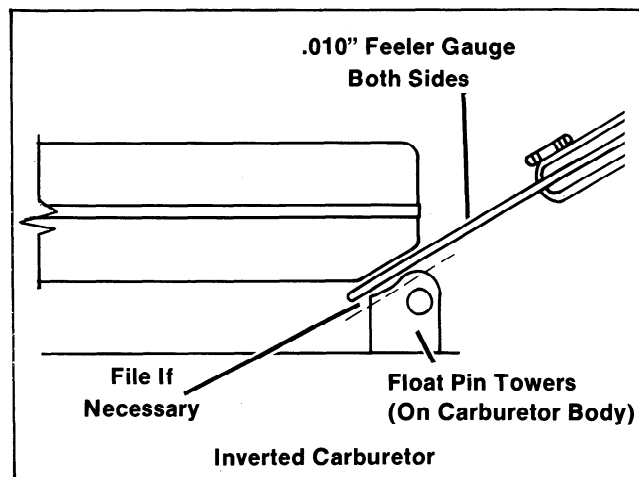

Figure 4-6. Checking Float Clearance
4. **Check float clearance.** Invert carburetor—check clearance between float and float pin towers with a $.010$ " feeler gauge. If feeler cannot be inserted or if there is interference between the float and towers, file the towers to achieve proper clearance. See Figure 4-6.